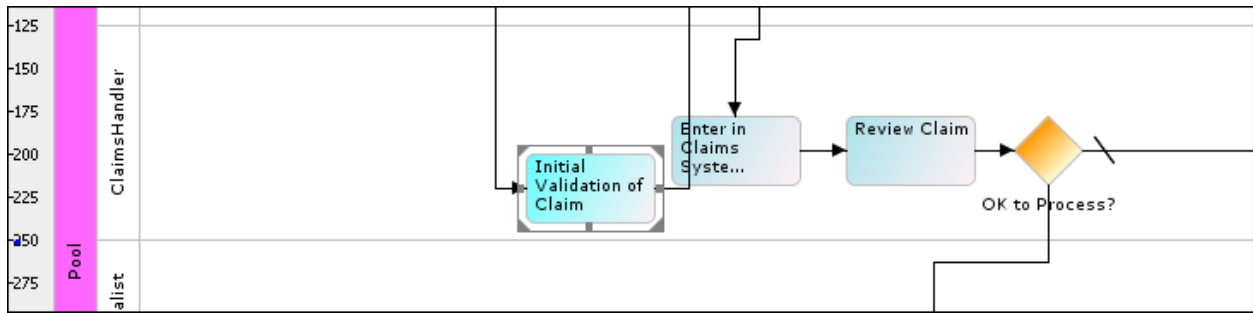

Figure 48: New Color for Pool
3. Select the color for the Pool and click **OK**. This changes the Pool color to the new color (see Figure 48).